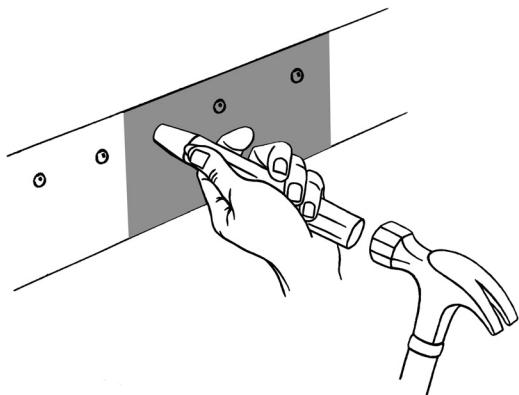

Figure 3
8. Cut marking around rivets using an Osborne cutting tool of proper size to fit over rivet. Place tool over top of rivet and marking and tap lightly using a small hammer (Figure 3). Squeeze the marking around the rivet with firm pressure. The cut film on the rivet head can be left on the rivet but will eventually come off during washing. Avoid applying marking over closely spaced rivets where possible. Apply the marking above the bottom row of closely spaced rivets on side panels.